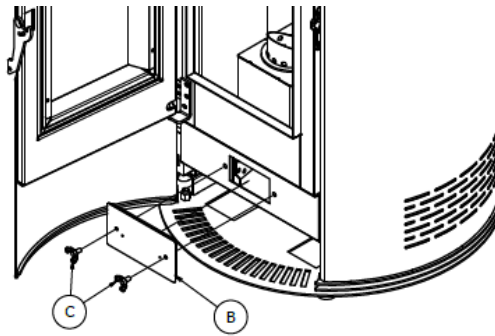

Figure. 5.13
- for easy access to the fan (A), simply remove the lid (B) by adjusting the two screws (C) (Fig. 5.13).